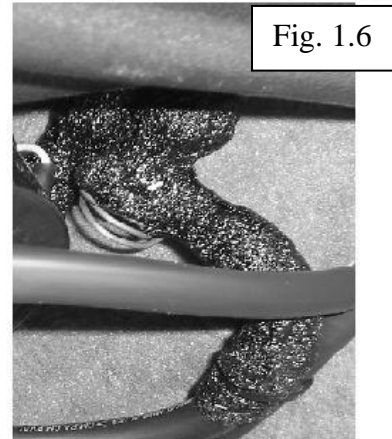

Fig. 1.6
12) After the a/c hoses are connected use the black cork tape to cover the metal fittings, and connections at the evaporator box. See figure 1.6